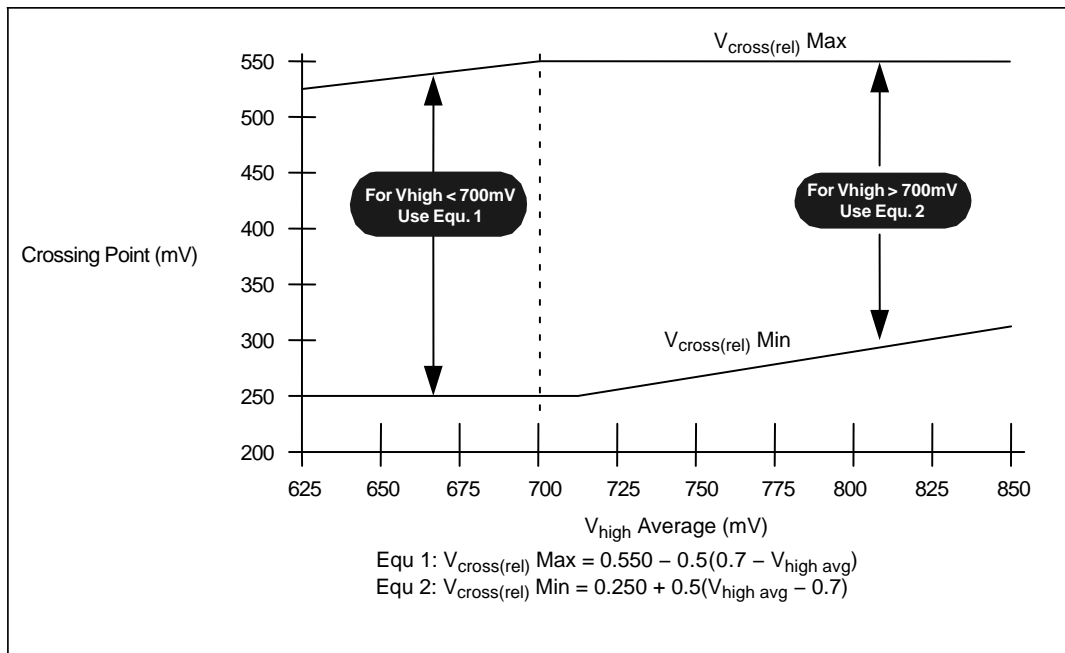

Figure 16.  $V_{cross}$  Range Clarification (Note 40)
| $V_{cross}$ absolute              | Absolute Crossing Point Voltages (Notes 12, 17 and 24)Relative Crossing Point Voltages can be calculated (Notes 16, 17 and 24) (Figure 16) | 250  | –   | 550              | mV     |
16.  $V_{cross}(rel)$  Min and Max are derived using the following,  $V_{cross}(rel)$  Min =  $0.250 + 0.5 (V_{high\ avg} - 0.700)$ .  $V_{cross}(rel)$  Max =  $0.550 - 0.5 (0.700 - V_{high\ avg})$ . (see Figure 16 for further clarification).